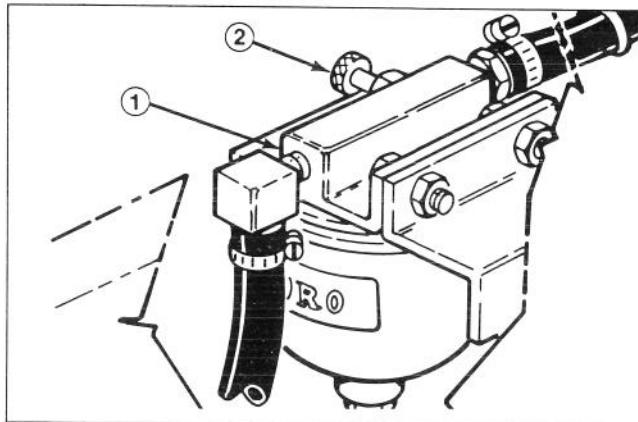

Figure 21
2. From the left side of the rear wheel, locate air bleed screw on top of fuel filter/water separator and loosen the screw (Fig. 21).